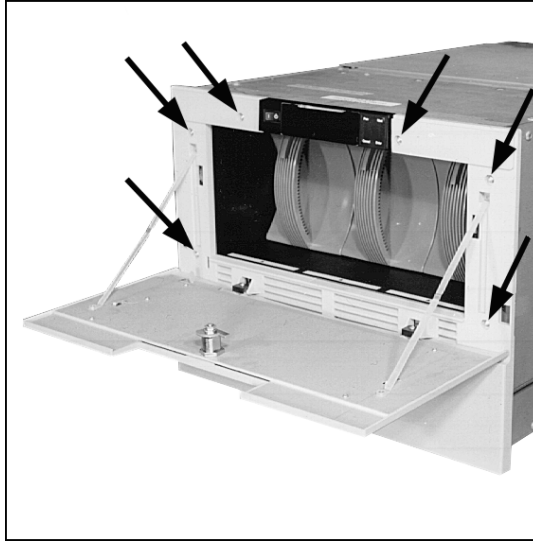

Figure 5-2. Front Door / Bezel Area Mounting Screws
3. Remove the 6 T-15 screws that mount the front access door / bezel assembly. See Figure 5-2.
- (Rackmount) - Remove the two screws holding the library to the rack and pull the library out on its rackmount rails until it “clicks.” The rack mounting screws are the lowest screws on each side of the front of the bezel as shown in Figure 5-2.